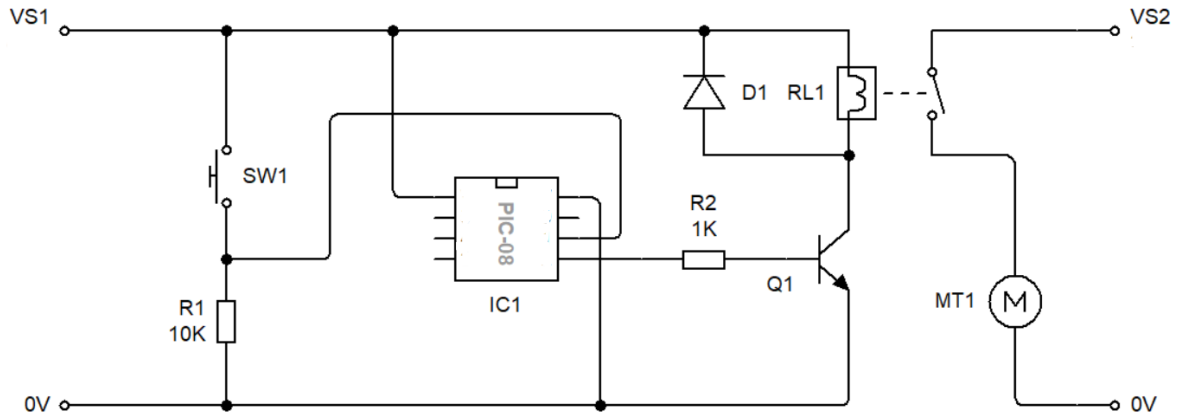

Figure 9
a. Sketch a rectangle around the input section of this circuit including the main power supply on the circuit diagram on Figure 9. (1)
b. SW1 functions as a non-latching switch. Underline **ONE** suitable non-latching switch which is suitable for the intended users of this game. (1)
c. The circuit designer decided to add a latching switch to the circuit in order to switch off the circuit completely. On Figure 9 indicate, by drawing an X, where such a switch would be appropriately placed. (1)
iii. In Figure 9, a diode is connected in parallel to the relay. Fill in the missing words in the following statement:
f. From the given circuit in Figure 9 mention **ONE** actuator. _____ (1)
g. The power supply of the controlling circuit uses 3 AA batteries. Calculate the total voltage at the controlling circuit. (2)
21. The system shown in Figure 9 (in Question 20) was designed to be controlled by a microcontroller. The pinouts of the PIC are shown in Figure 12.